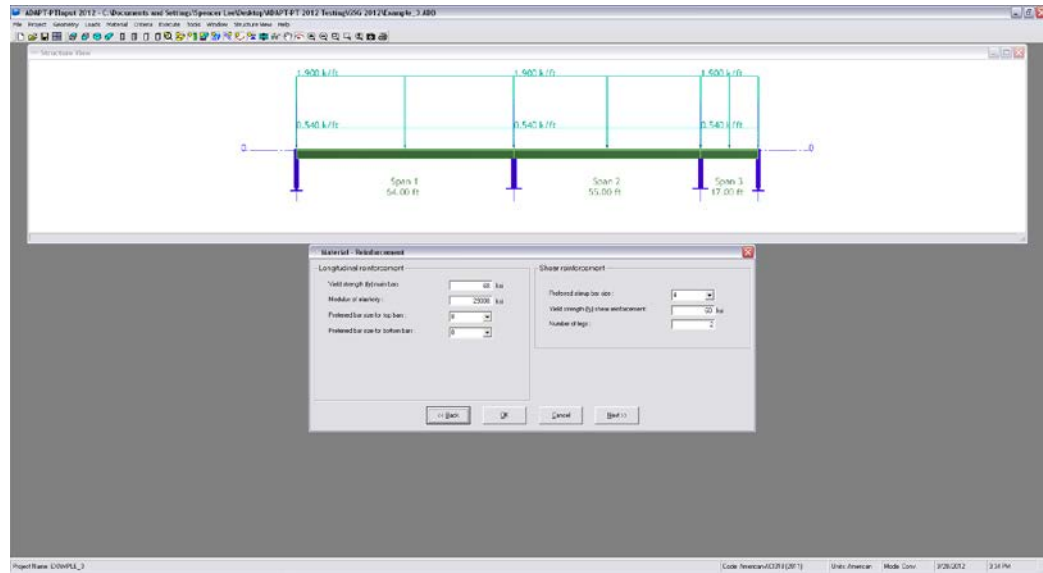

FIGURE 4.2-10
4.2.4.2 Enter The Properties Of Reinforcement (Fig. 4.2-10)